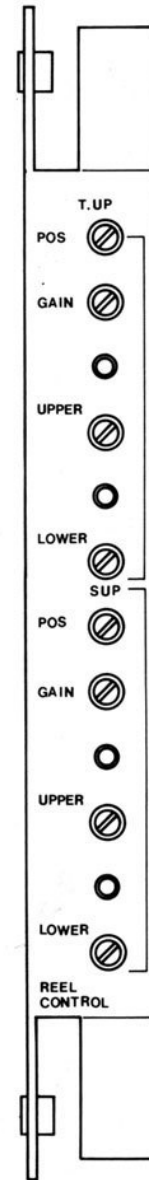

Figure 5-8. Reel control circuit card (card #1) front panel adjustments.
The following adjustments are made with the deck plate installed, but without tape. Refer to Figure 5-8. Steps 1 and 2 are only necessary if either both swing assembly have been disassembled.
1. Place the machine in Rewind mode. Capstan and tacho rollers should need no replacement for extensive periods of time if they are properly maintained. If there is any slippage of the tape on the capstan roller, temporarily adjust the SUP POS trimmer on circuit card #1, turning it slowly clockwise until the slippage is eliminated (Refer to Figure 5-8). Wind time for a 10 inch reel of 1.5 mil tape should be approx. 120 seconds.